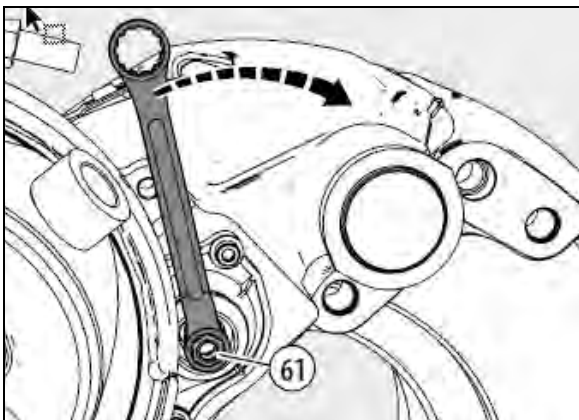

FIGURE 44: APPLY THE BRAKE 5-10 TIMES, SPANNER TURNS CLOCKWISE
15. As a visual aid, position a ring spanner or socket onto the adjuster (including Adapter (61)) as shown. Apply the brakes 5 to 10 times, the spanner or socket should turn clockwise (viewed from actuator side) in small increments if the adapter is functioning correctly (see Figure 44 and note below).